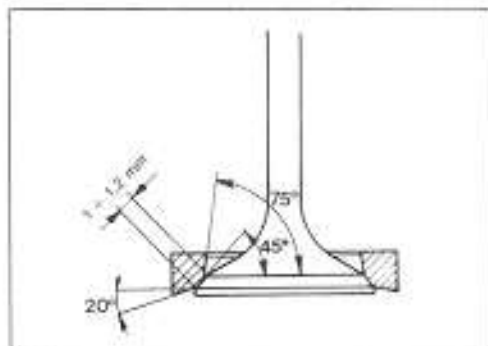

Fig. 53
- A rettifica eseguita la superficie di contatto tra valvola e sede deve avere una larghezza di $1 \pm 1,2$ mm (Fig. 53).
- The valve seat angle is 45° . The seat should be radiused according to figure 53. Take care to remove the slightest amount of material when re-cutting the valve seats.
- After this operation the width of the valve seating surface should be $1 \pm 1,2$ mm (Fig. 53). Coat the seat with a thin film of aniline dye, install the valve in its guide and rotate it holding it in contact with the seat, to make the seating surface clearly visible.